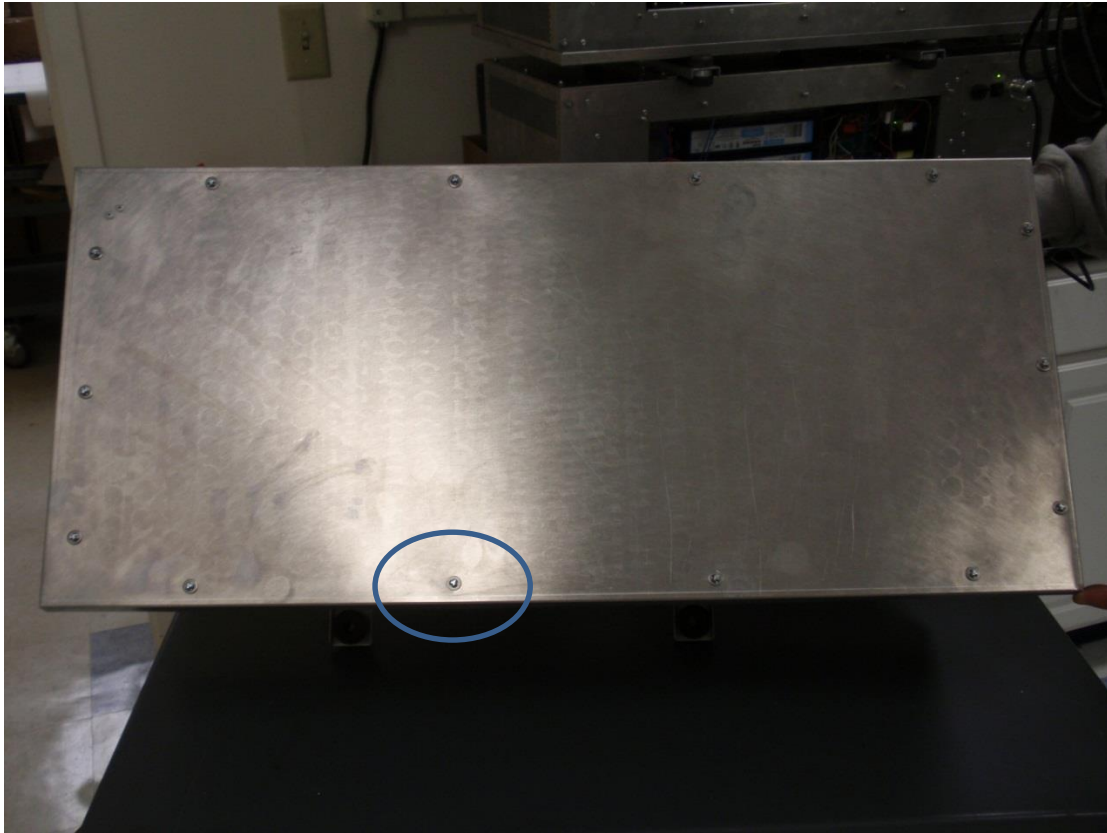

Figure 6: Cover and Cover Screws
- 3) Remove 14 screws on cover (See Figure 6) (take care not to lose screws)